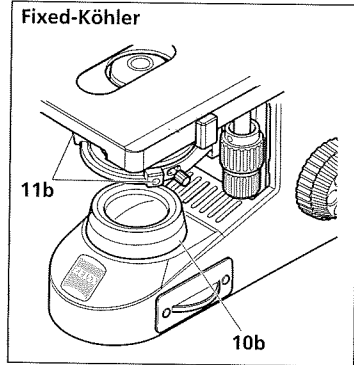
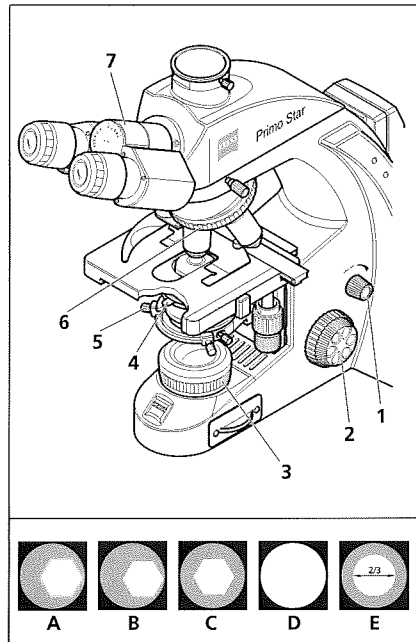

Fig. 4 Controls
Fig. 8 Adjusting transmitted-light brightfield
- The smoothness of the coarse focusing drive (Fig. 4/18) is factory-adjusted. However, you can readjust it when required.
Legend to Fig. 4:
- First, place a contrasty specimen slide with the 0.17 mm cover slip being on top in the specimen holder of the mechanical stage. Fix the slide by means of the spring lever (Fig. 4/12).
- Turn rotary knob (Fig. 8/1) on microscope stand to adjust the illumination intensity.
- Move the Abbe condenser up to the top mechanical stop by turning knurled knob (Fig. 4/15); set the control lever of the aperture diaphragm (Fig. 4/14) to mid-position.
- Turning at the knurled ring (Fig. 8/6) of the nosepiece, swing the 10x objective into the light path.
- On the binocular tube (Fig. 8/7), first look through one eyepiece and turn the focusing drive (Fig. 8/2) to focus on the specimen.
- Close the luminous-field diaphragm (Fig. 8/3) until it becomes visible (even if not in focus) in the field of view (Fig. 8/A).
- Turn the knurled knob for vertical adjustment of the condenser (Fig. 4/15) until the edge of the luminous-field diaphragm appears sufficiently sharp (Fig. 8/B).
- Center the image of the luminous-field diaphragm using both centering screws (Fig. 8/5) of the condenser (Fig. 8/C). Then, open the diaphragm until it just disappears from the field of view (Fig. 8/D).
- To adjust the aperture diaphragm (contrast), remove one eyepiece from the tube and look through the tube with your naked eye. Swing lever (Fig. 8/4) to adjust the aperture diaphragm to approximately $2/3$... $4/5$ of the diameter of the exit pupil of the objective (Fig. 8/E). In most applications, this aperture diaphragm setting provides optimum contrast at almost ideal resolution, and is therefore the best compromise for the human eye.